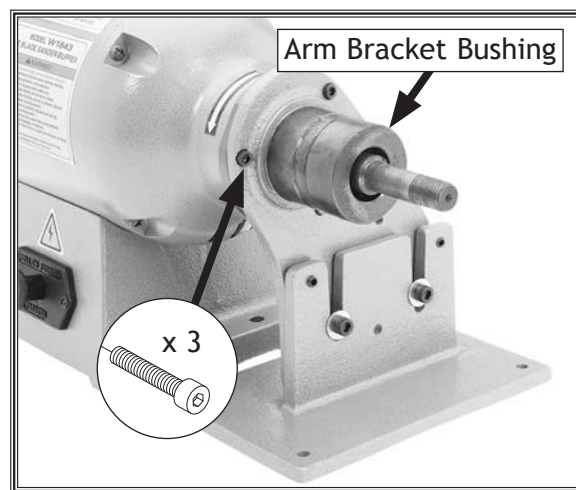

Figure 10. Pivot arm bracket assembly installed onto the motor assembly.
5. Slide the assembled arm brackets onto the right-hand arbor with the arm bracket bushing facing out, as shown in **Figure 10**, then secure it with the remaining (3) 1/4"-20 x 1/2" cap screws.